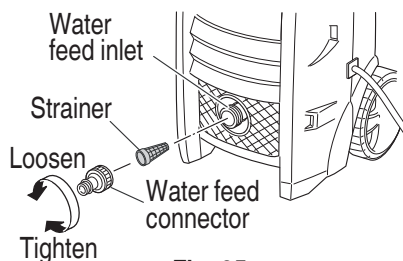

Fig. 25
2. Inspecting the strainer (Fig. 25)